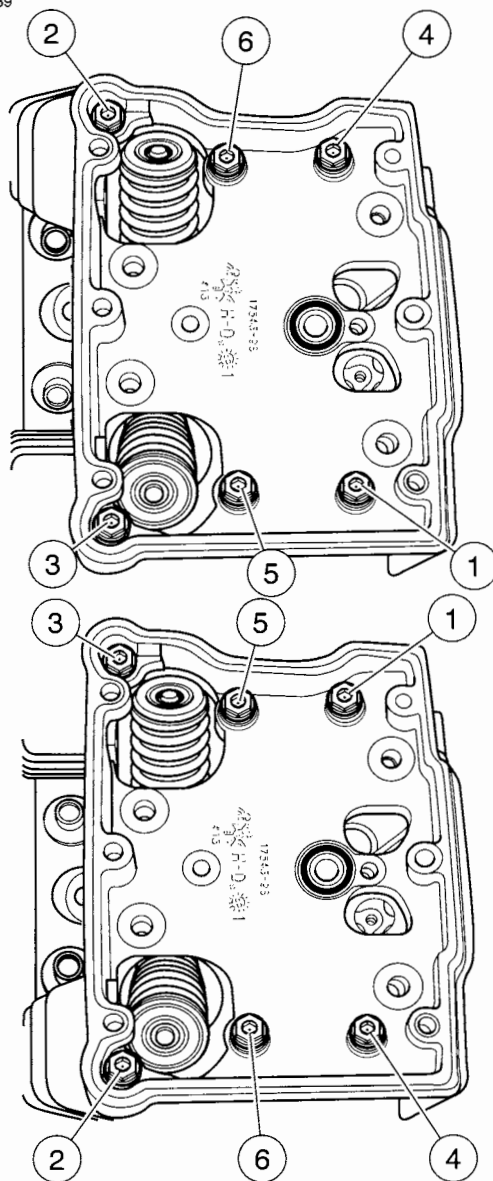

Figure 3-24. Rocker Housing Bolts Removal Sequence
1. See Figure 3-24. Following the sequence shown, alternately loosen the six rocker housing bolts. Remove rocker housing bolts and their captive washers.